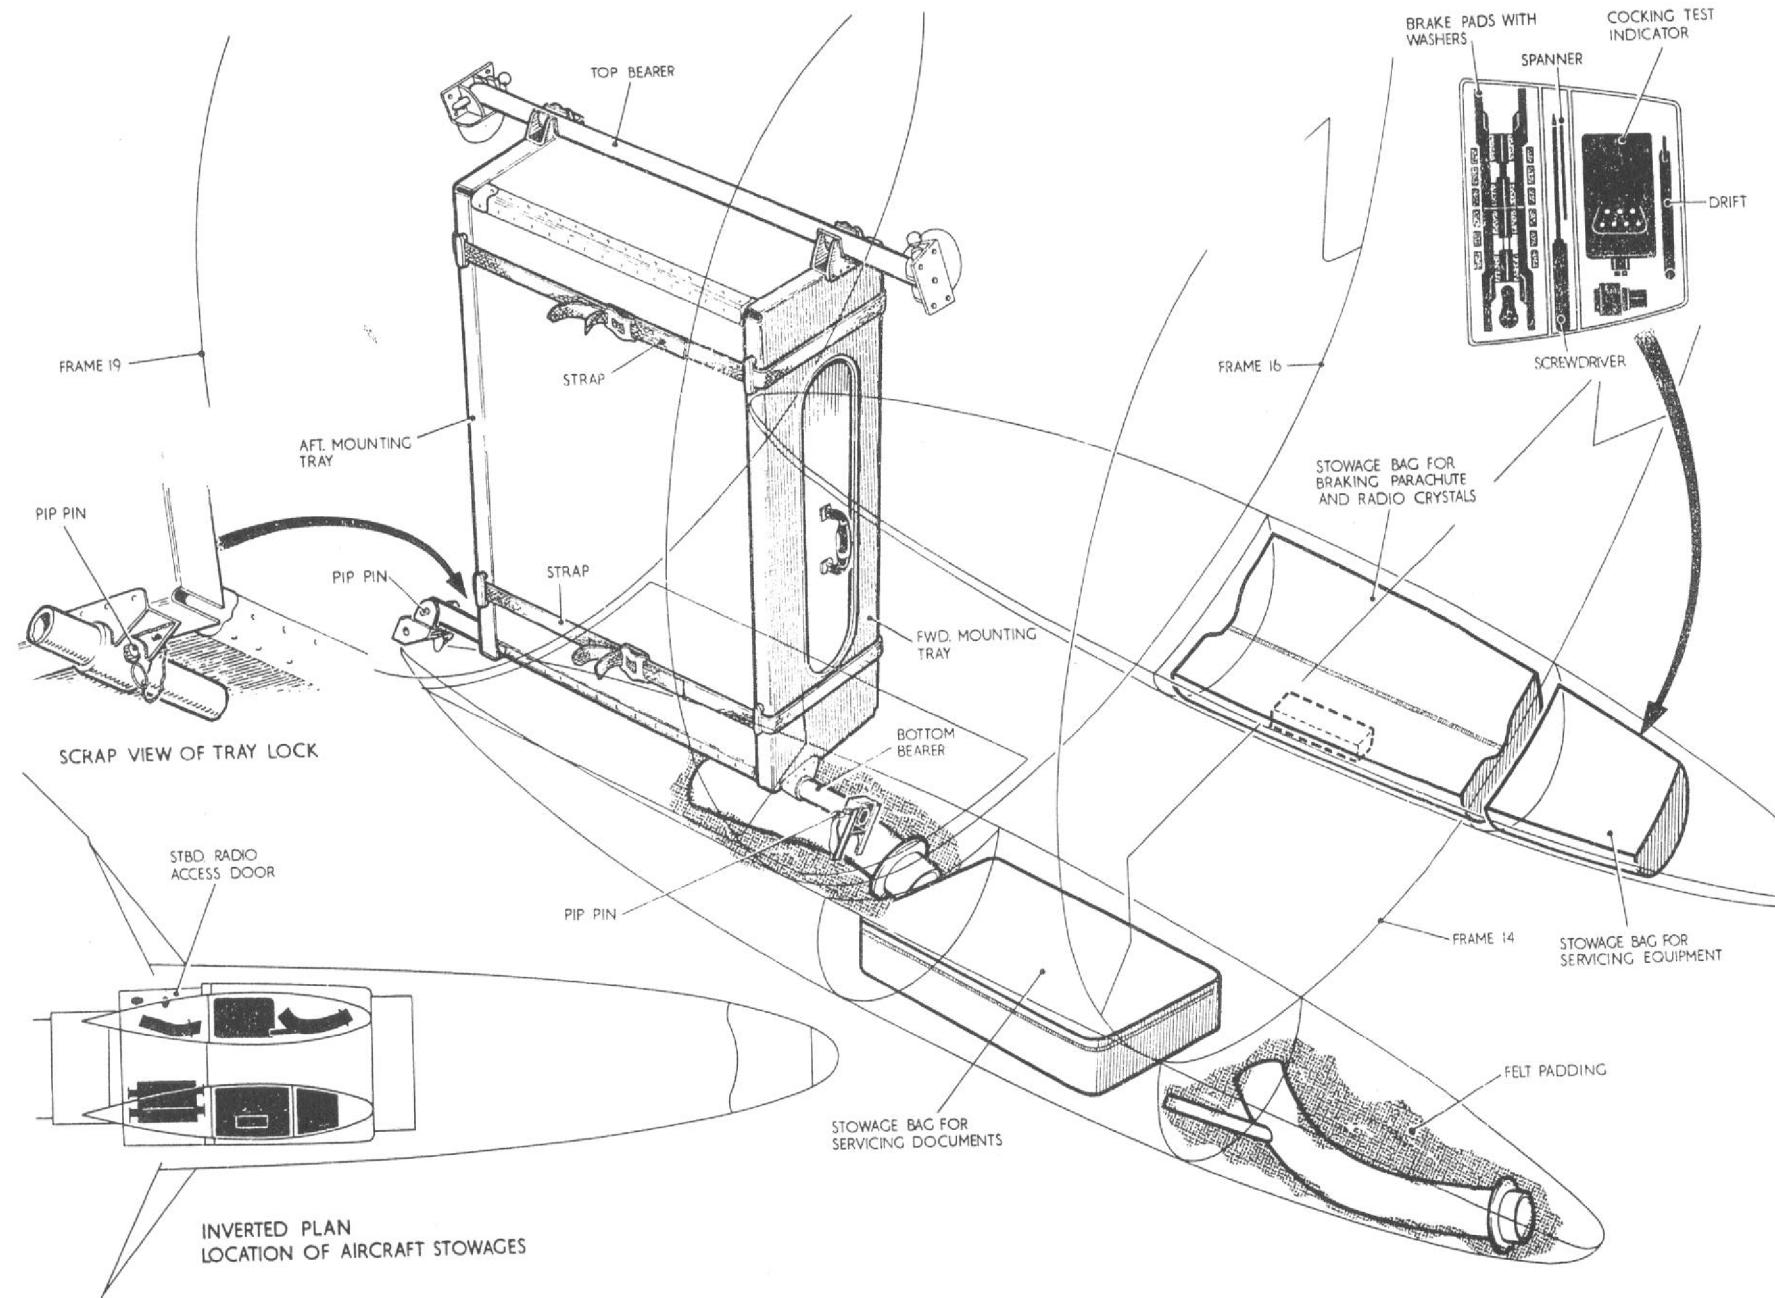

Fig.1 Stowing luggage, spare braking parachute and servicing documents etc.
Stowing luggage, spare braking parachute, servicing equipment and documents (fig. 1 and 2)
- (5) Fit the top bearer, Part No. A.258429 between the mounting brackets on frames 16 and 19 and secure with the pip-pins, Part No. A 413 attached to the mounting brackets (fig. 1).
(6) Fit the forward and aft mounting trays, Part No. C.258425 and C.258426 to the suitcase and secure firmly with the two strap assemblies, Part No. B.258427, ensuring that the straps pass through the guides on the mounting trays.
(7) Fit the bottom bearer, Part No. B. 258428, through the mounting rings at the bottom of the mounting trays and secure the aft mounting tray to the bottom bearer with pip-pin, Part No. A.518.
(8) Offer up the mounting tray, suitcase and bearer assembly into the radio bay and locate the top locating channels about the top bearer and fit the aft end of the bottom bearer into the attachment bracket for the outboard case chute at frame 19 and secure with the pip-pin. At the same time feed the forward end of the bottom bearer into the mounting bracket on the aft face of the gun package, and secure with the pip-pin.